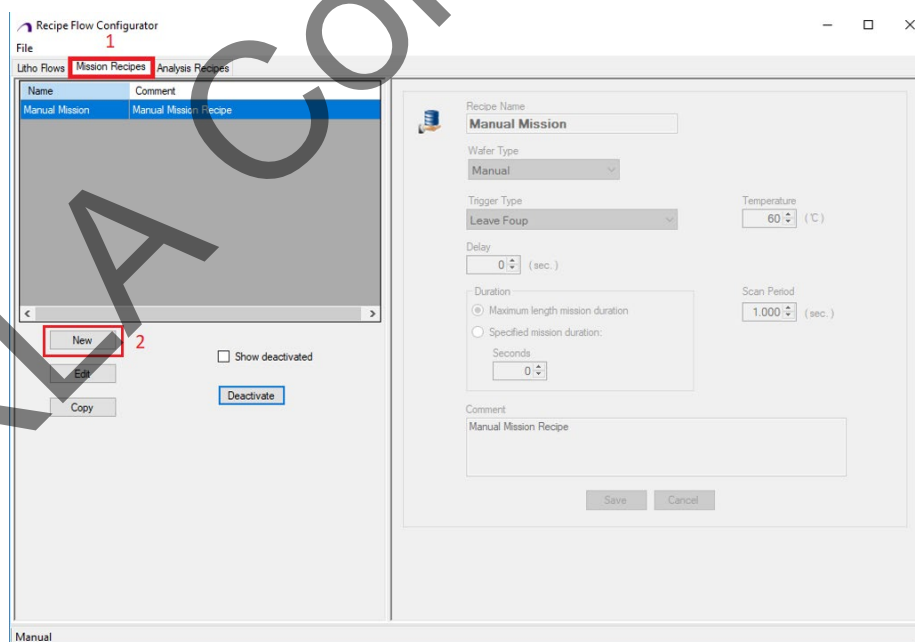

Figure 5-18 Mission recipes tab
1. Click **Recipe Flow Configurator** on the **SAT** launcher UI. You can see the Recipe flow configurator window opens, as shown in Figure 5-18.